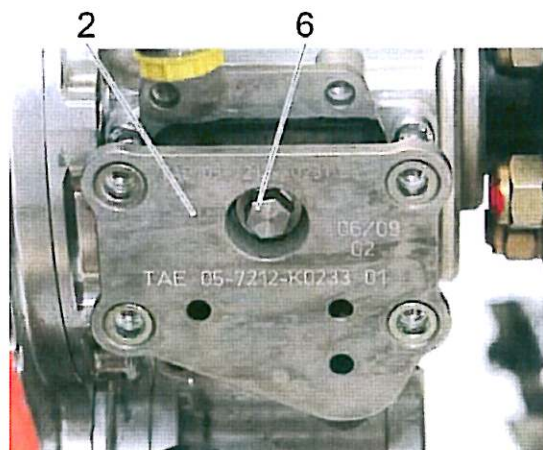

Figure 13
7. Apply Loctite 243 to the screw (item 6).
8. Attach the vibration isolator (item 2) to the adapter plate (item 1) with the help of the screw (item 6). See Figure 13.